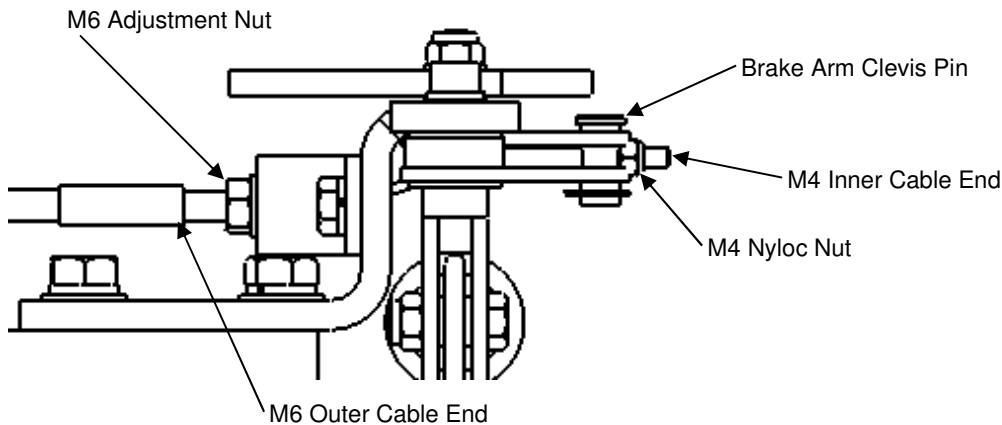

Figure 9.6.5.4 Brake Cable End Fitment
18. Grip the Brake Cable Cable End with pliers and tighten the M4 Nyloc Nut until it contacts the edges of the Brake Arms. If required, prise the Brake Arms apart and activate Brake Lever until the M4 Nyloc Nut “jumps” in between the Brake Arms and locates against the Brake Arm Clevis Pin. See Figure 9.6.5.4.